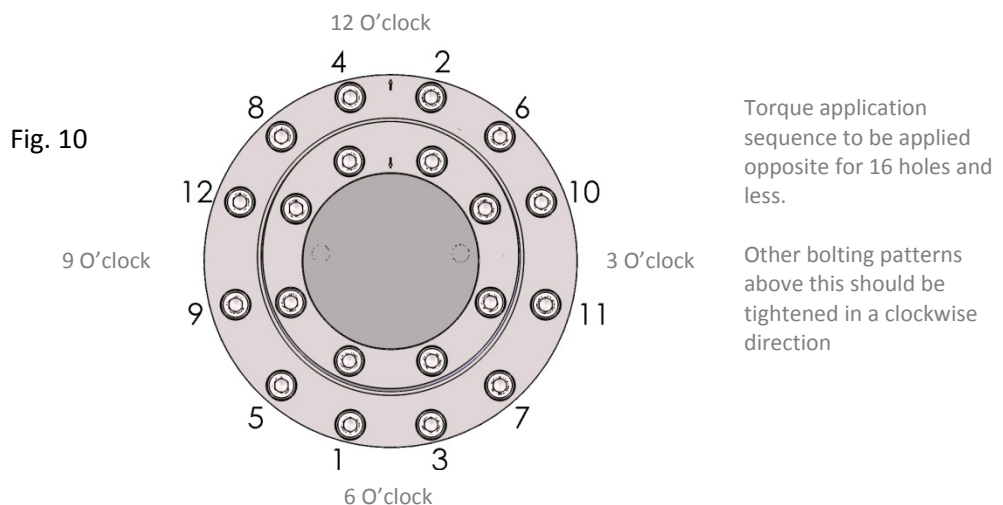

Fig. 10
- j. Tighten the body seat screws to the torque specified on the GA drawing using a calibrated torque wrench. Tighten the screws in 25% increments (i.e. specified torque ÷ 4) in the sequence shown. (see fig. 10)
- l. Due to the nature of gasket relaxation the valve should be allowed to 'sit' for approximately two hours. The disc seal and body seat screw torques should then be checked to see if any slackening has occurred. If slackening of the screws has occurred then the screws should be tightened to the torque specified on the GA drawing in the sequence shown in Fig. 10.